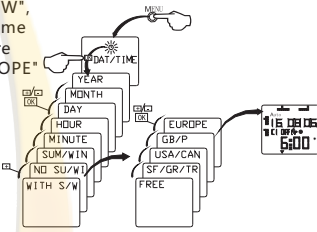

figure 3
(1) under the general screen, press "Menu" button twice (the display screen shows "DAT/TIME"), and then press "OK" button to enter the setting date function. If you do not need to change the setting, press "OK" button continuously until the display screen shows "SUM/WIN", and then press "OK" button to enter the summer and winter TIME function. (see figure 3)
(2) After entering the function, the display screen will display "NO SU/WI". Or "WITH S/W", use the "+" or "-" key to change the display NO SU/WI : NO need for summer/winter time function, press "OK" Key confirmation can exit the setting; Return to the general picture state; "WITH S/W" requires summer/winter time function, press "OK" button, The "EUROPE" option will be displayed after confirmation, at which point "+" or "-" can be used The change key (you can choose from the following 5 options), press OK when selected Confirmation.